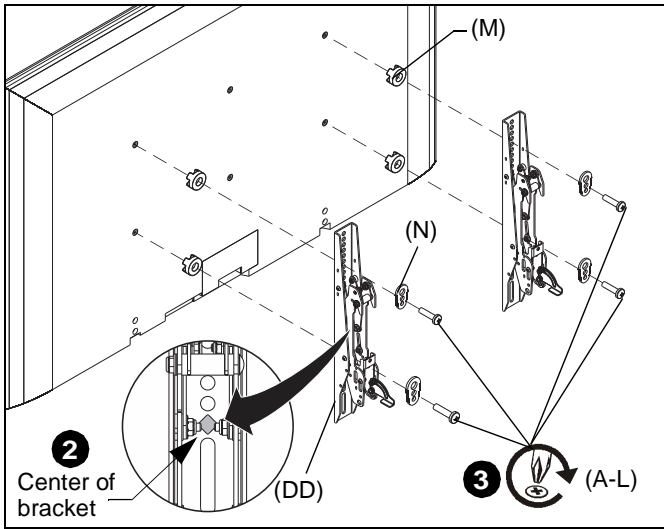
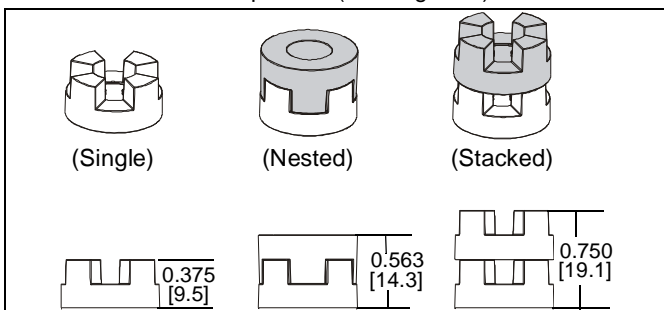

Figure 6
Figure 7
- Align the center of the interface bracket (DD) with center of display. (See Figure 6)
- Select correct screws, spacers (if necessary) and universal washers from the hardware bag (A-N) and attach brackets (DD) to back of displays. (See Figure 6)
**IMPORTANT ! :** The M8 screws do **NOT** require a washer. Use the universal washer (N) only with M4, M5 and M6 screws.
**NOTE:** The nesting spacers (M) may be used separately, or put two together in different configurations to create different size spacers. (See Figure 7)